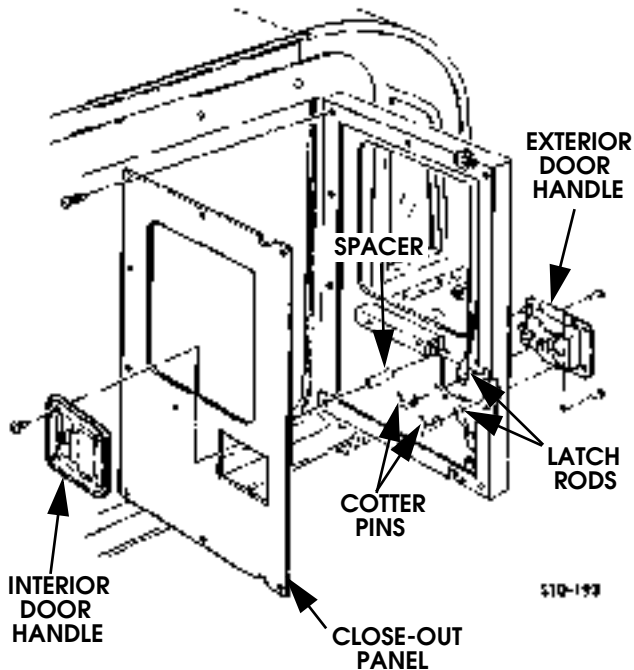

Figure 10-148: Door Handle Replacement
2. Remove four screws and interior door handle from door (Figure 10-148).
1. Secure exterior door handle to door with four spacers (Figure 10-148).